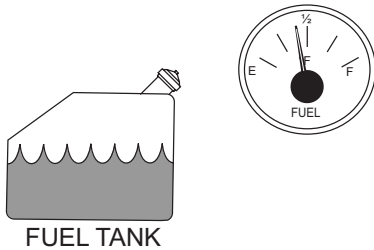

Figure 39. Full Fuel Tank
3. **NEVER overfill the fuel tank** — It is important to read the fuel gauge when filling the fuel tank (Figure 39). **DO NOT** wait for fuel to rise in the filler neck.